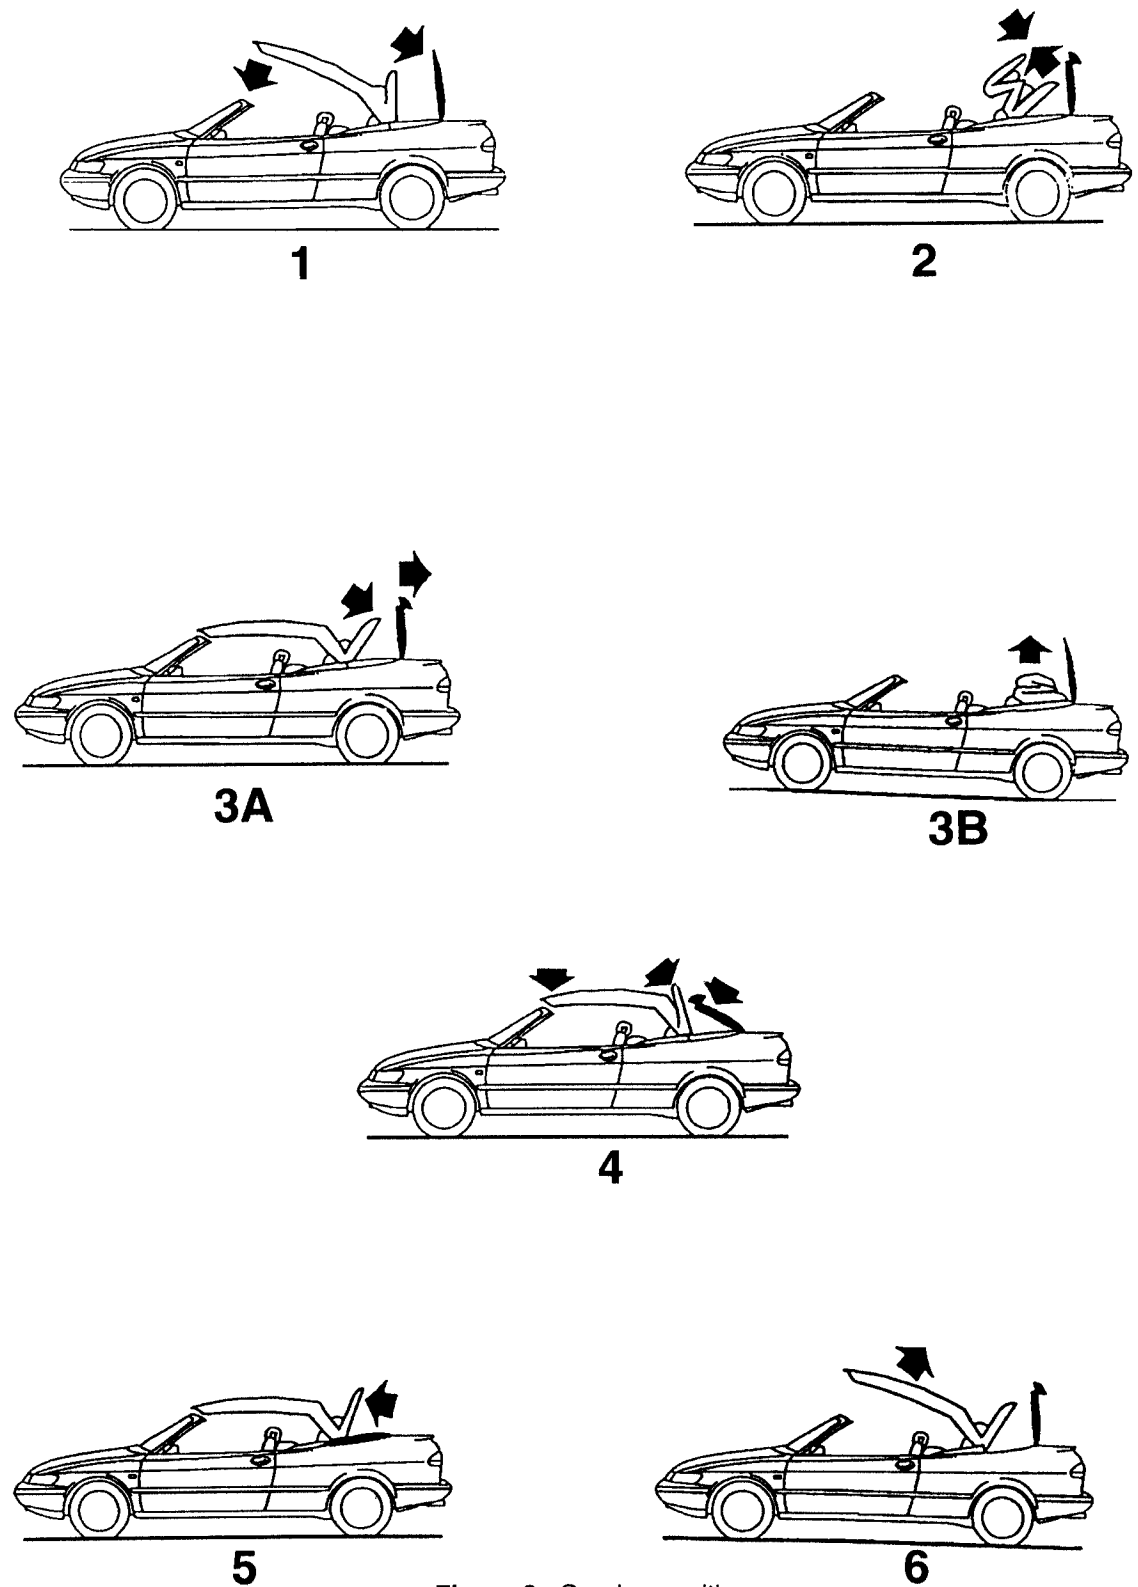

Figure 3. Overlap positions
**See Figure 3 on next page.**